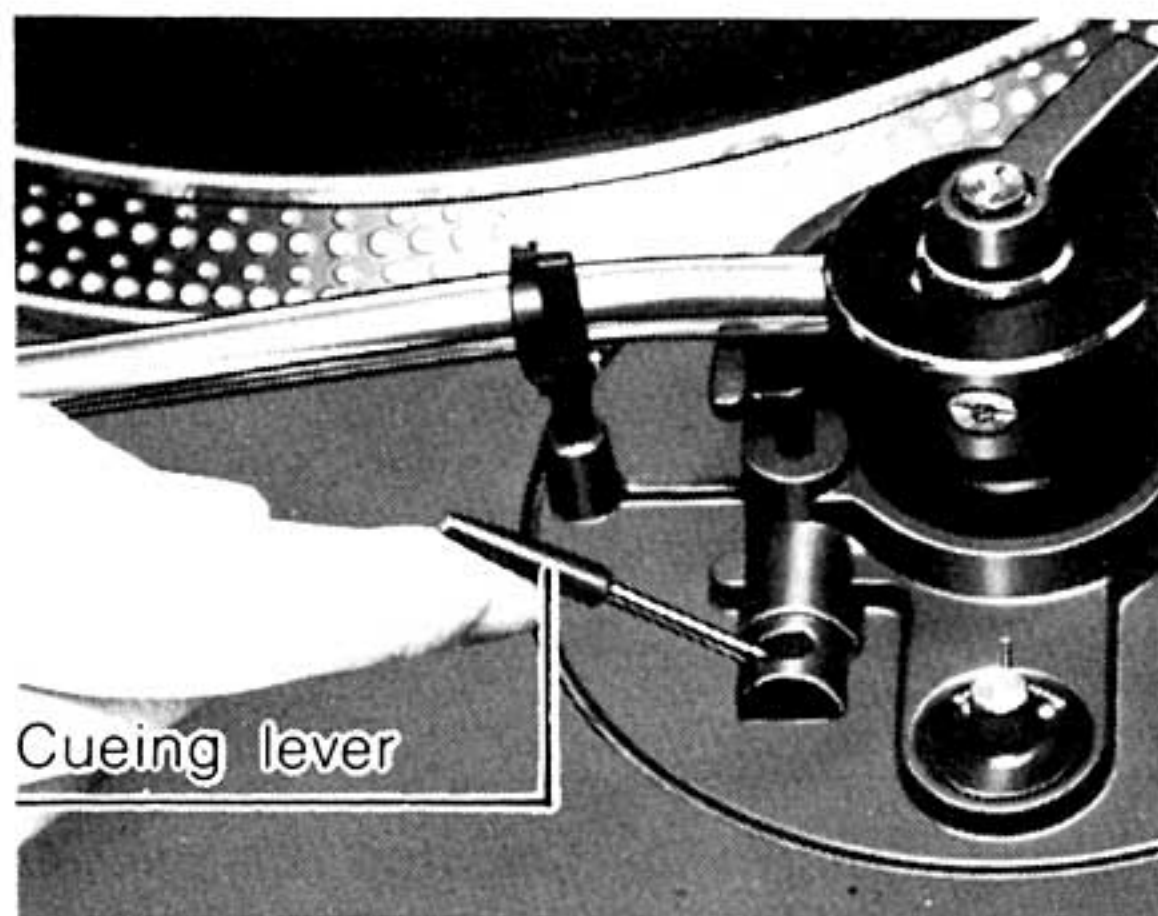

Figure 14
- 3 LIFT THE CUEING LEVER AS INDICATED BY THE ARROW. (See Fig.14)